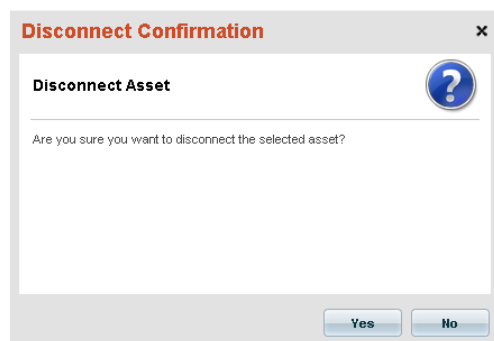

FIG. 244 Disconnect Asset Confirmation dialog
4. The system will prompt you to verify this action (FIG. 244). Click **Yes** to proceed.